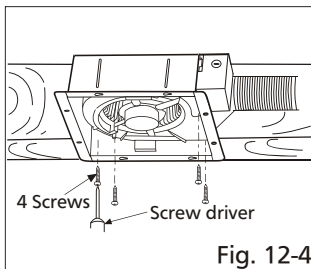
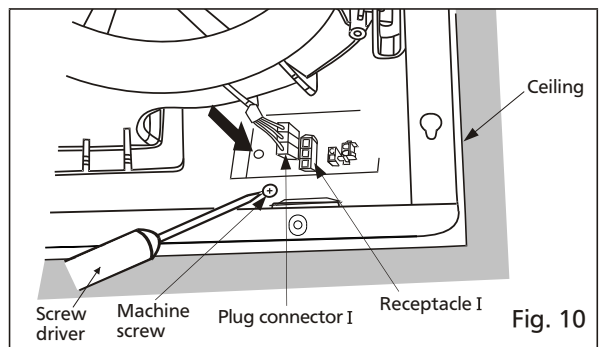

Fig. 12-4
Fig. 10
6. Secure the fan body to adaptor by using machine screw and plug connector to receptacle. (Fig.10)
5. Secure the adaptor to fan body by using machine screw. (Fig. 10)
8. Secure the blower. (Fig. 12-4) and plug connector to receptacle. (Fig. 10)